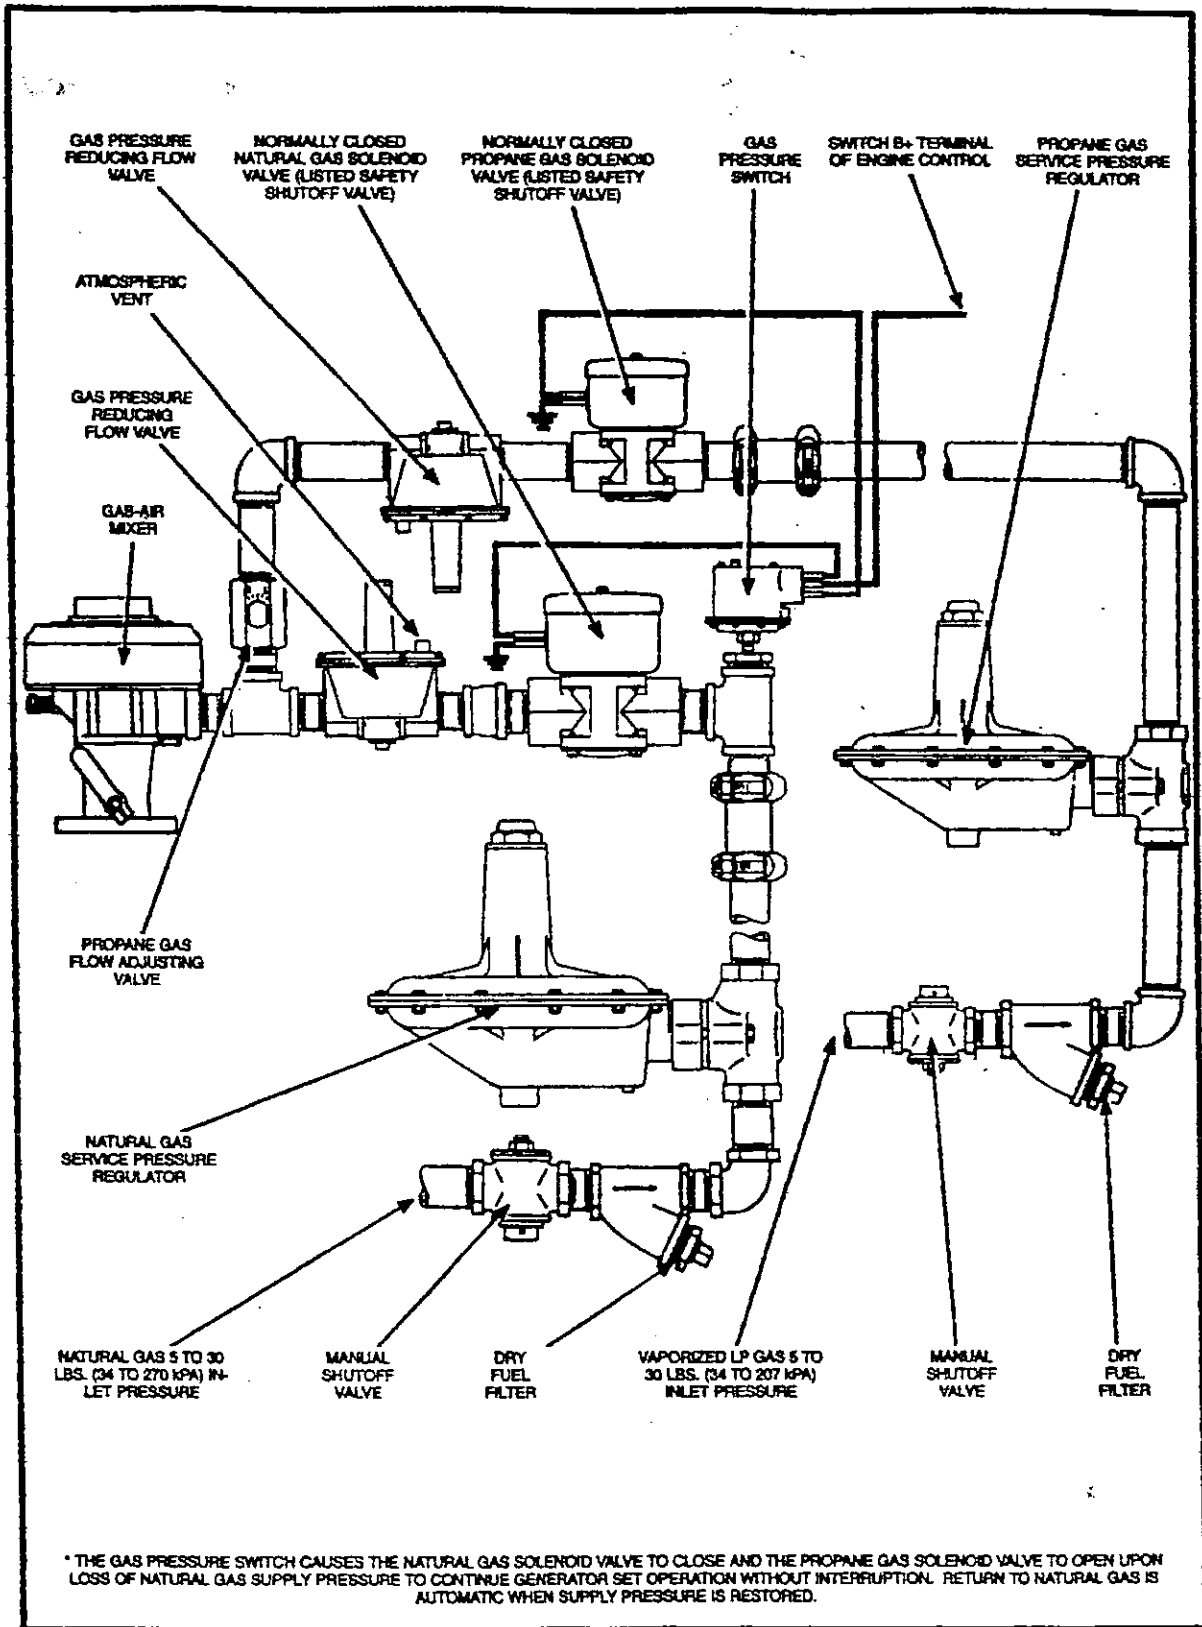

FIGURE 34. TYPICAL GASEOUS FUEL SYSTEM
Figure 34 illustrates the typical gas line components in an automatic-transfer, dual-fuel system (natural gas and LPG). It is also representative of single fuel systems and the natural gas or LPG fuel components used when the alternate fuel is gasoline. When natural gas or LPG is used in combination with gasoline, the gas-air mixer is mounted on the air horn of the gasoline carburetor. Not shown is the LPG vaporizer supplied with TPS generator sets equipped for liquid withdrawal of LPG (engine-mounted on outdoor sets only). The service pressure regulator(s), dry gas filter(s) and manual shutoff valve(s) are typically provided by the installer.
- A dry fuel filter should be installed in each line as shown in Figure 34 to protect the sensitive pressure regulating components and orifices downstream from harmful foreign substances carried along in the gas stream (rust, scale, etc.).